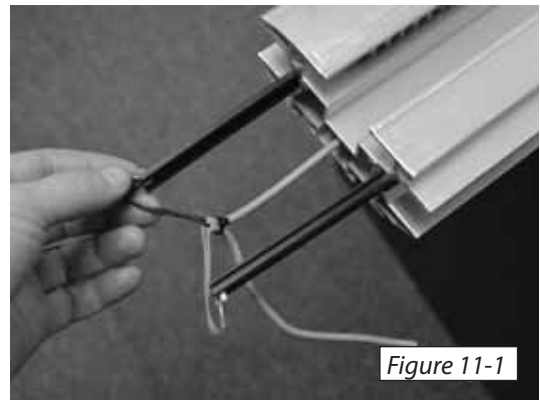

Figure 11-1
1. Carefully remove the charging strips from the top end of the rail. [Figure 11-1]